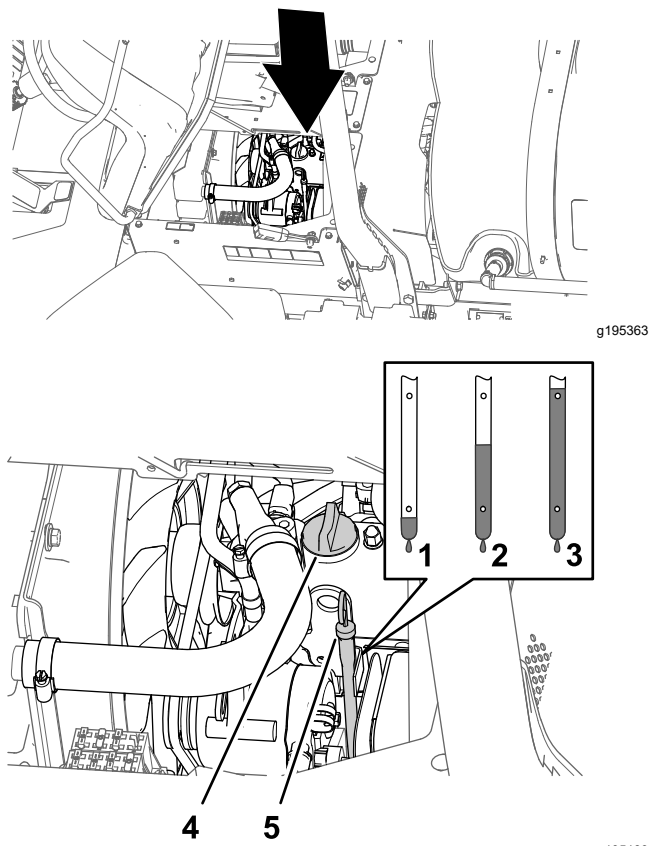

Figure 78
2. Remove the dipstick, located under the passenger seat, and wipe it with a clean rag (Figure 78).
3. If the oil level is low, remove the filler cap from the valve cover (Figure 78) and pour oil into the filler neck until the oil level is up to the Full mark on the dipstick.
4. Install the oil-filler cap (Figure 78).
5. Install the dipstick firmly in place (Figure 78).